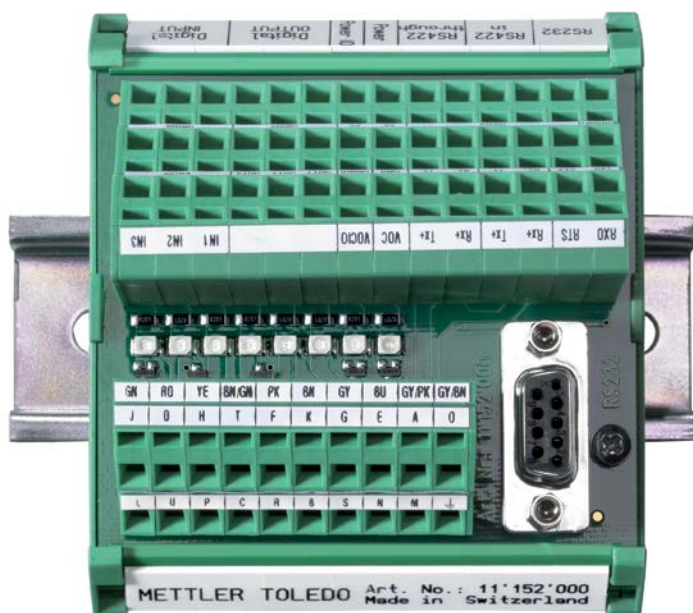

Figure 3-7: Connection module with terminal strips,
- Open wires: In a wash-down application, it is important to place connection modules with terminal strips (See Figure 3-7) inside a housing, where open wires are protected against water ingress. Wiring must be made correctly on terminal strips before powering up the weigh module. Confusing the power pins with data pins might damage the weigh module. Wires shouldn't be plugged in or out when the weigh module is under voltage. This action might damage the weigh module.